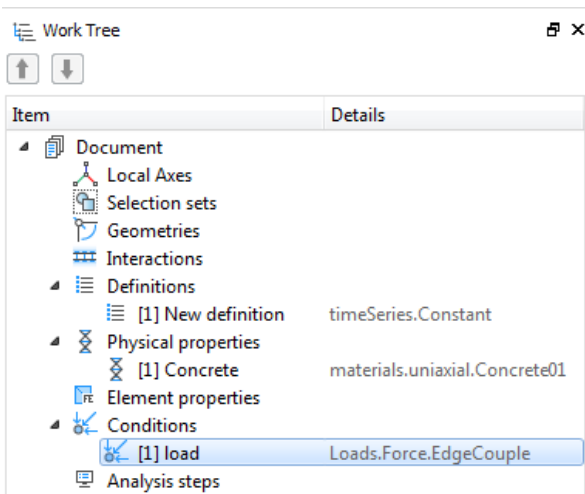

Figure 6. Preprocessor Work Tree
(3) Work Tree The Work Tree contains all the hierarchical information about the models. An example of the Preprocessor work tree is shown in Figure 6.